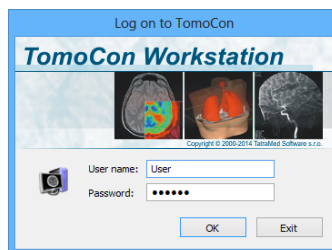

Figure 3 – Log On to TomoCon dialog
- Authorized access with user name and password; the user needs to enter the user name and password into the **Log On to TomoCon** dialog (see Figure 3) and then click **OK** button to start the application.